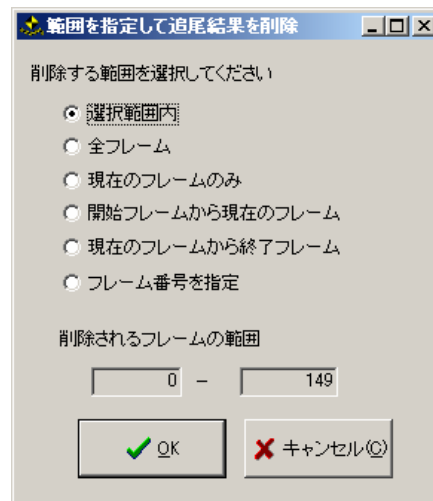

Figure 219 Delete Tracking Results by Specifying the Range
- With either method, the screen in Figure 219 will be displayed.
- Figure 219 will be displayed. Select the range to delete and click “OK”.